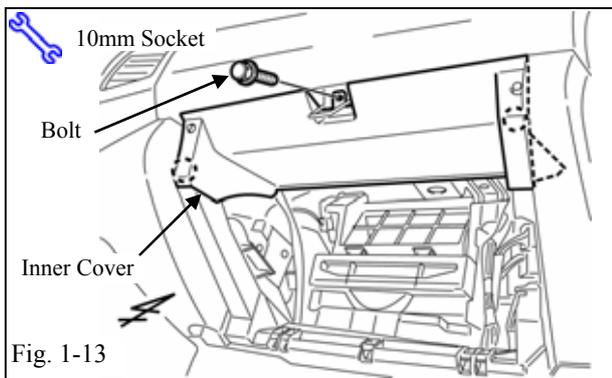

Fig. 1-13
- (u) Remove the glove box inner cover. (Fig. 1-13)
- (1) Remove 1 bolt.